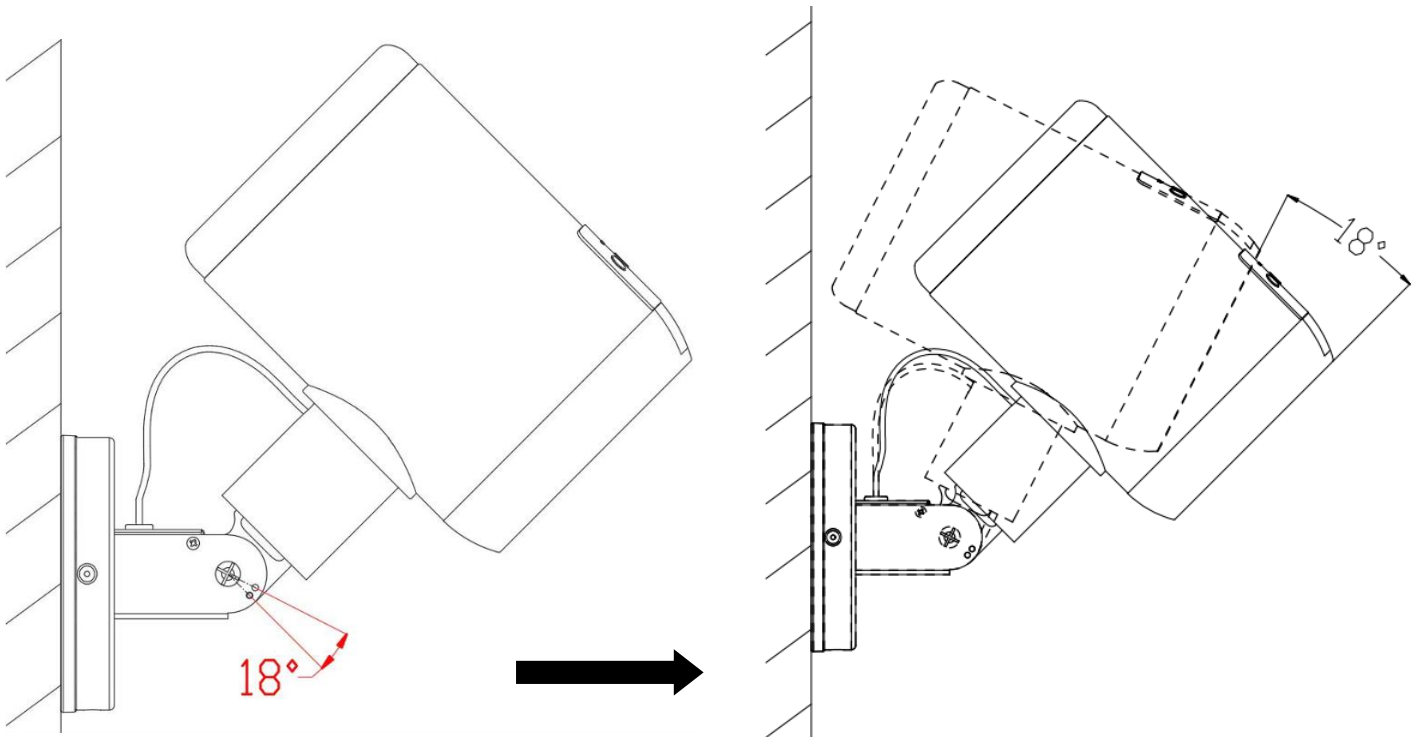

Fig. 6
- Adjust the arm to your desired angle. (Fig.6)